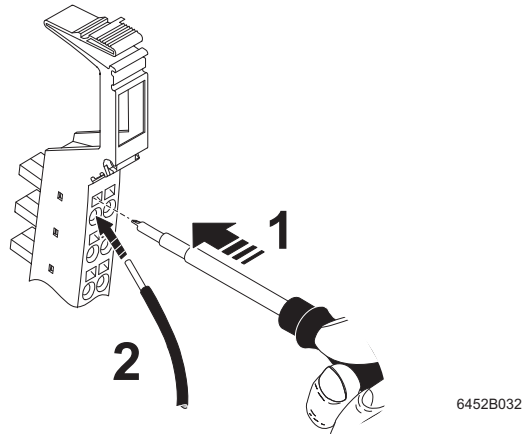

Figure A-1 Connecting unshielded cables
- Push a screwdriver into the slot for the appropriate connection (Figure A-1, 1), so that you can plug the wire into the spring opening.
- Insert the wire (Figure A-1, 2). Remove the screwdriver from the opening. This clamps the wire.